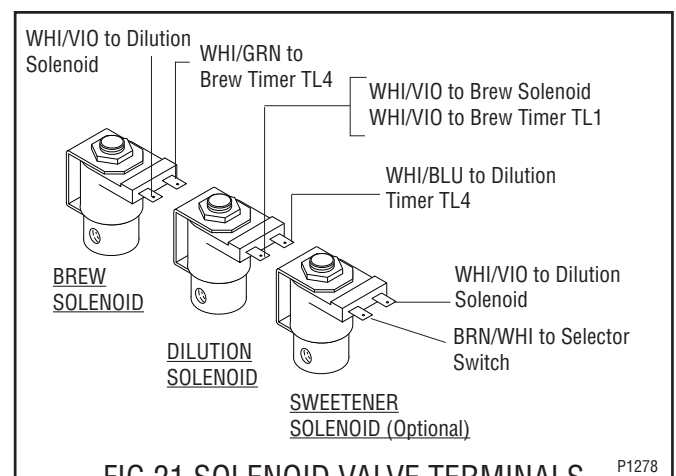

FIG. 21 SOLENOID VALVE TERMINALS
10. Refer to Fig. 21 when reconnecting the wires.